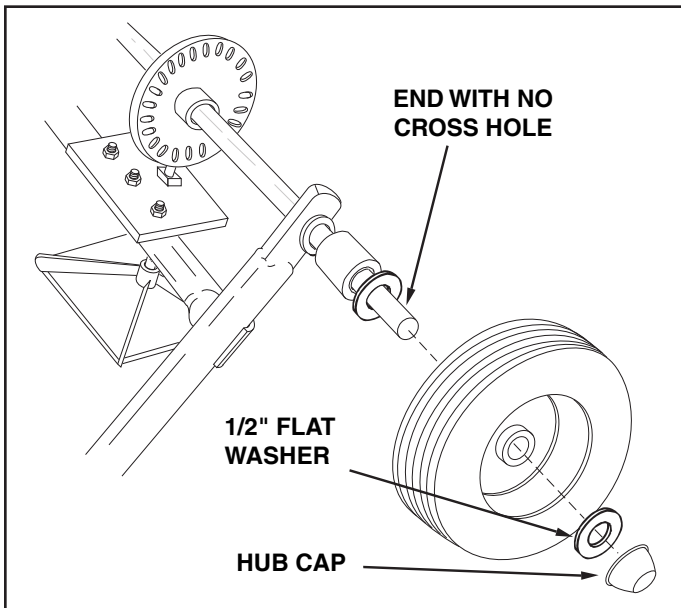

FIGURE 4
9. Place the wheel (long end of hub first) onto the end of the axle that has no indents. See figure 4.
10. Place a 1/2" flat washer onto the axle and then lightly tap a hub cap onto the axle until it is snug against the washer and wheel hub. See figure 4.